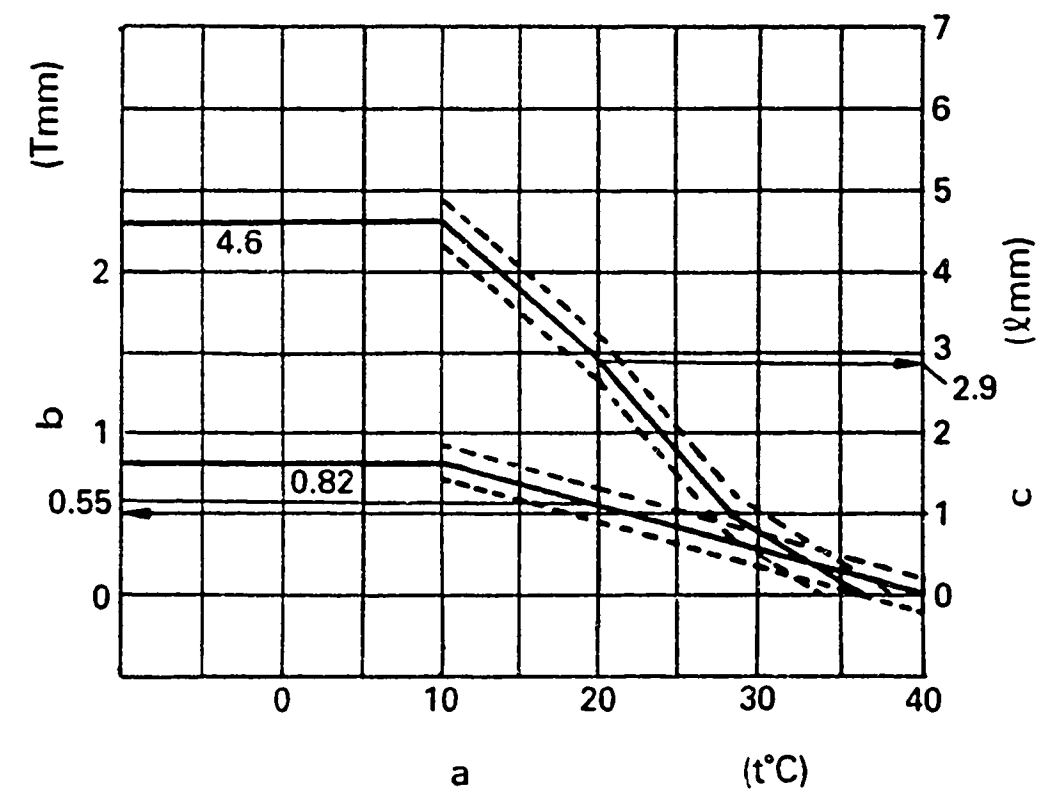

Fig. 42
Calculate the timer stroke from Fig. 42 according to the atmospheric temperature at the time of adjustment. Adjust using timer stroke adjusting screw (1) so that the timer stroke is as calculated in Fig. 42.
Formula for calculating (Fig. 42)
Insert the thickness gauge  $l = \pm 0.05$  mm, as shown in the diagram (Fig. 42), between the idling adjusting bolt (7) and the control lever (6), and tighten the idling stopper bolt (2) at the point where the roller of the CSD lever (3) touches the intermediate lever (4).